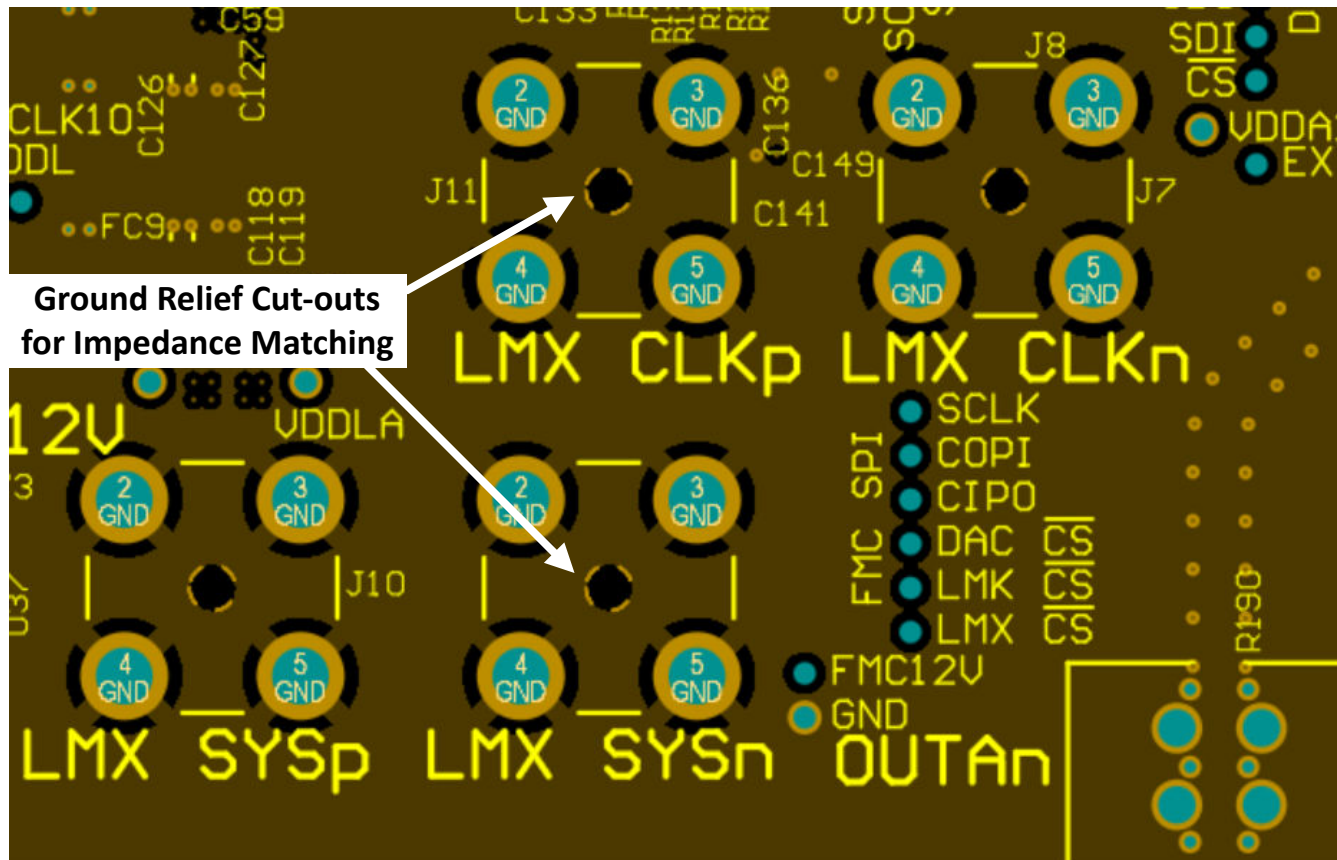

図 8-26. Ground Cut-out Below SMA Connector Center Pin
5. Incorporate any ground plane cutouts necessary at component landing pads, ie – SMA connectors, baluns, etc., to avoid impedance discontinuities at these locations. Cut-outs below these landing pads on one or multiple ground planes to achieve a pad size or stackup height that achieves the needed 50-Ω, single-ended impedance. See Figure 8-25 and Figure 8-26 as an examples.